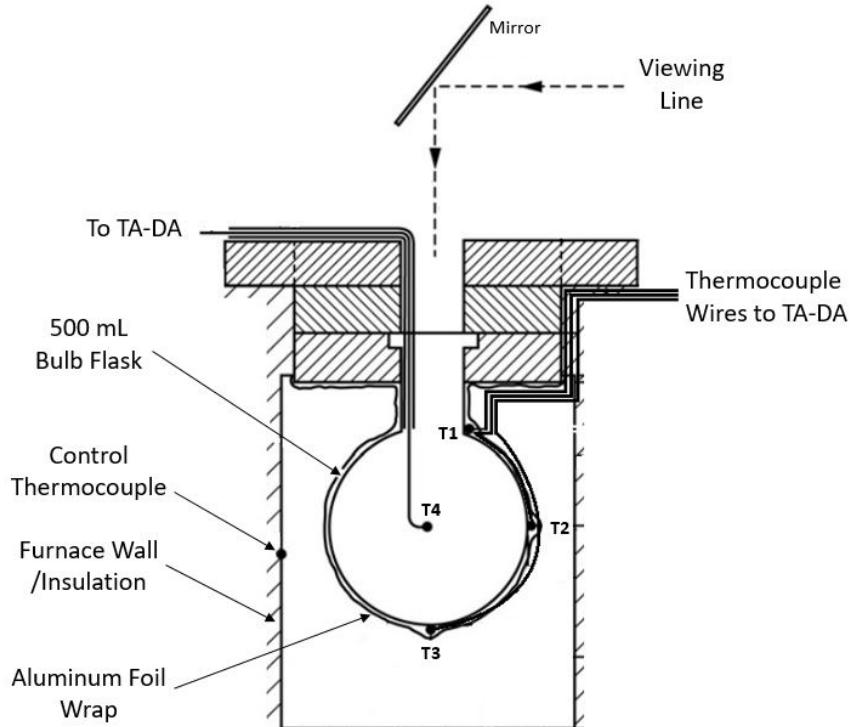

Figure 20: Diagram of the furnace when assembled
- The final setup should resemble Figure 20